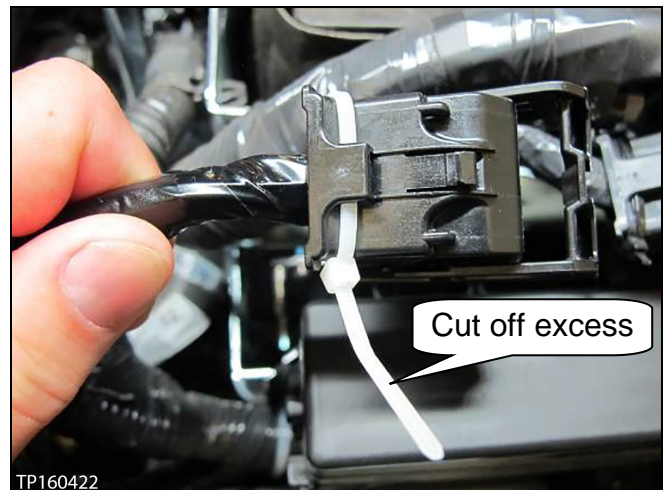

Figure 26
24. Install a new tie strap around the black top cover and all wiring close to connector E16 (see Figure 26).